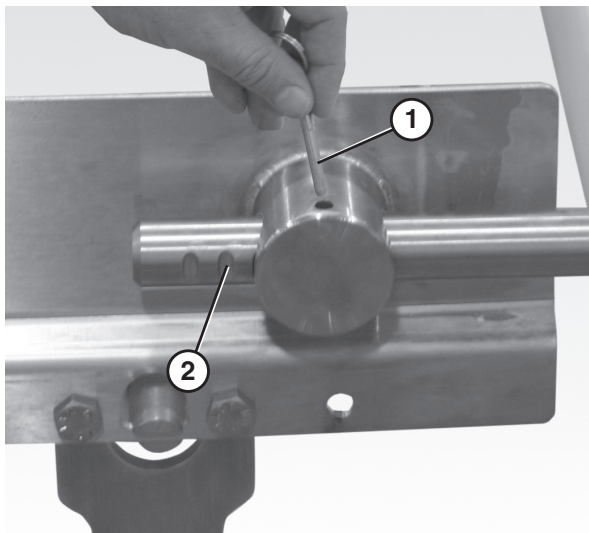

Figure 58
1. Remove both pull pins (**Figure 58, item 1**) on the tension end of the conveyor.
2. Extend the idler tail to the next groove (**Figure 58, item 2**) on the bearing shaft.